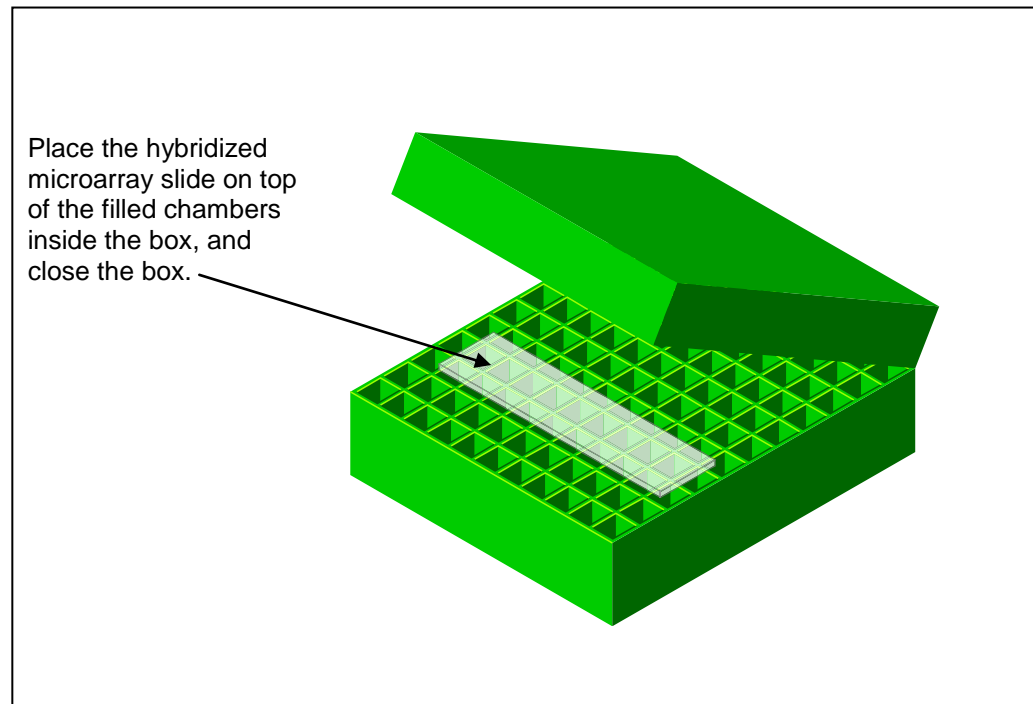

Figure 2: Step 5A → Glass Slide inside Chamber Box²
- 8) Place the entire labeled target plus the microarray set-up into a closable, chambered box* that is humidified by 2 X SSC buffer in the 37°C oven for 14 to 16 hours. A sealed chamber ensures that the appropriate humidity level is maintained during incubation. (See Figure 2).
Figure 2, below, provides an illustration of Step 5A, where the hybridization protocol is completed using the glass cover slide method, and specifically, the Mouse & Rat miRNA OneArray[®] Microarray is placed into the chambered box.